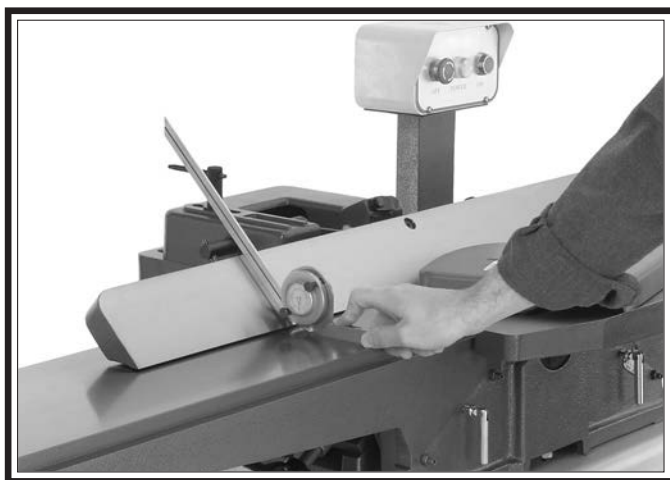

Figure 58. Example of adjusting fence 45° outward.
3. Using a sliding bevel set to 135°, adjust the fence to 135° (45° outward) position (see **Figure 58**), then tighten fence tilt lock.